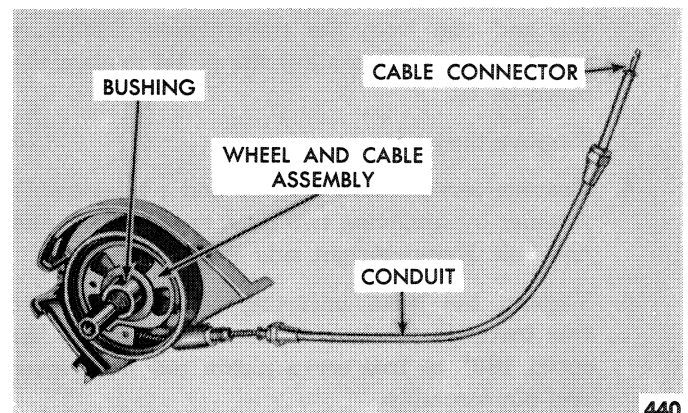

Figure 123—Servicing the Cable and Wheel Assembly
2. Remove the hex nut from the shaft and remove the snap ring and retainer plate to expose the wheel and cable assembly, shown in Figure 123. The shaft can now be withdrawn and the wheel and cable can be removed.